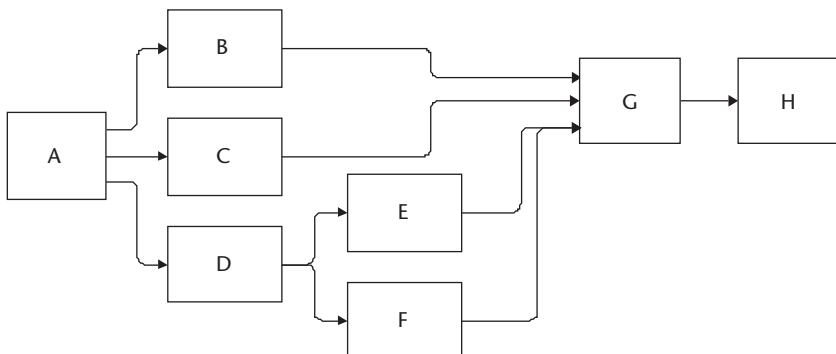

Figure 13.3 The dependency among essential steps is a template for the ideal.
- Depict the dependencies graphically, as shown in Figure 13.3, just as you would if you were laying out a project plan.